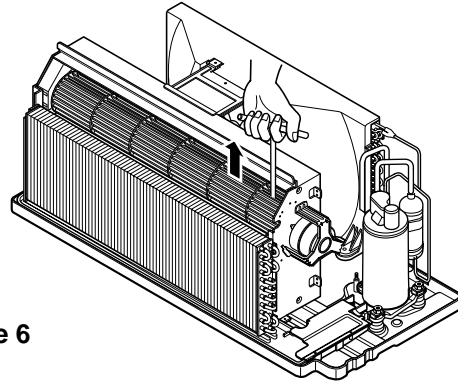

Figure 6
5. Loosen the hexagon screw with the Hex-wrench (See Fig.6)
6. Remove the 4 screws which fasten the indoor motor and the earth wire. (See Fig. 6, 7)